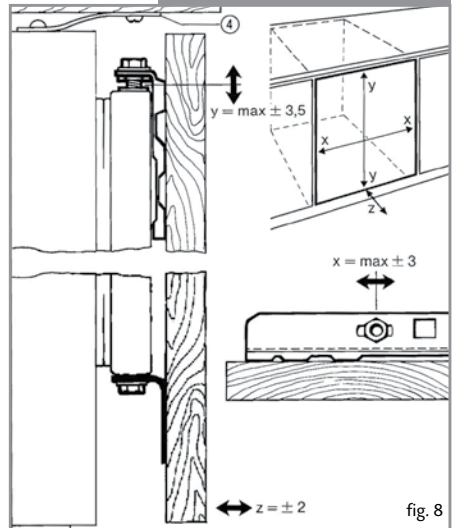

fig. 8
- Pre-adjust the appliance at slots (4) as shown in figure 8, into the mounting plate on the worktop.
- Adjust height Y at locating pin (14mm wrench) as shown in figure 8,  $Y = \max \pm 3.5\text{mm}$ .